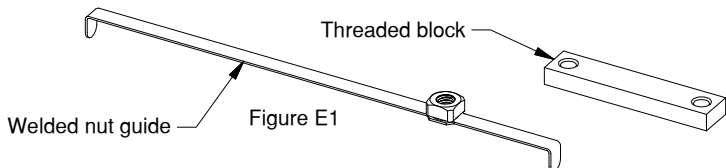

Figure E1
1. **Locate the threaded fastener guides.** The mounting kit contains a threaded block and a welded nut guide. Both are needed to install the rear brace, see Figure E1. **Note:** Inspect the welded nut guide to be sure that it is straight between the two bends and modify as needed, see below.